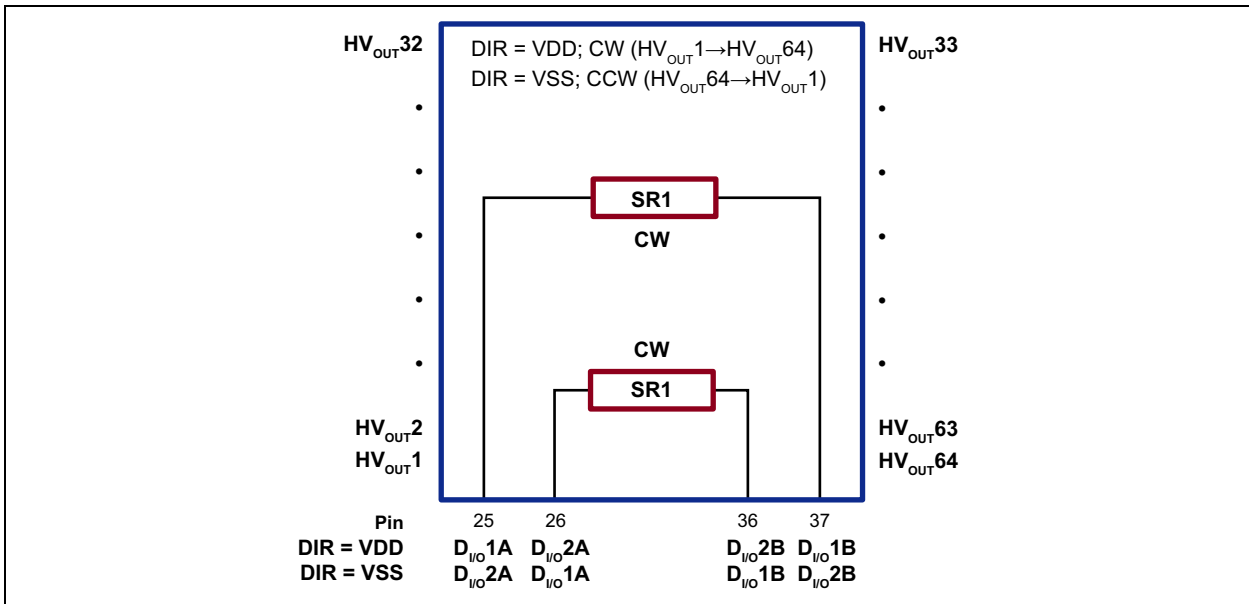

FIGURE 3-2: Shift Register Operation.
* = Dependent on the previous stage's state. See Figure 3-2 for D_{IN} and D_{OUT} pin designation for clockwise and counter-clockwise shifts.